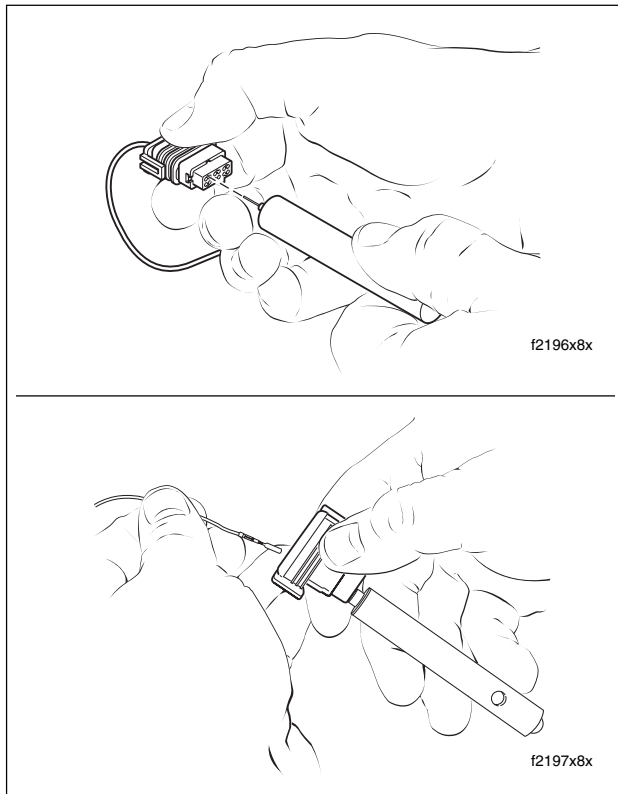

Figure 8-45. Insert Tool and Remove Terminal
- b. Push the adjacent terminals all the way into the connector housing and then insert tool into hole until it bottoms. See upper frame of Figure 8-45.
- c. Leaving the tool installed, gently tug on wires to pull either one or both terminals from wire end of connector. See lower frame of Figure 8-45. Remove tool.